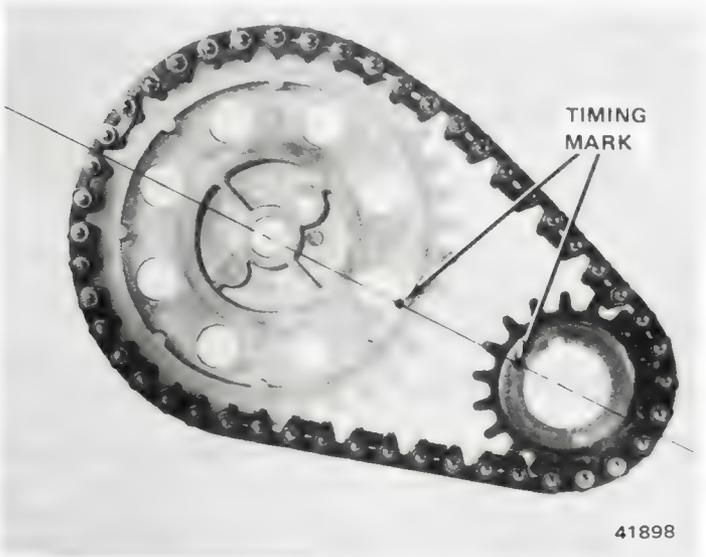

Fig. 1B-88 Timing Sprocket Alignment
- (1) Remove drive belt(s).
- (2) Remove engine fan and hub assembly.
- (3) Remove vibration damper pulley.
- (4) Remove vibration damper.
- (5) Remove timing case cover.
- (6) Remove oil seal from timing case cover.
- (7) Remove camshaft sprocket retaining screw and washer.
(8) Rotate crankshaft until 0 timing mark on crankshaft sprocket is closest to and on centerline with timing pointer of camshaft sprocket (fig. 1B-88).
(9) Remove crankshaft sprocket, camshaft sprocket and timing chain as an assembly. Disassemble chain and sprockets.
(1) Assemble timing chain, crankshaft sprocket and camshaft sprocket with timing marks aligned as shown in figure 1B-88.
(2) Install assembly to crankshaft and camshaft.
(3) Install camshaft sprocket retaining screw and washer and tighten to 50 foot-pounds (68 Nm) torque.